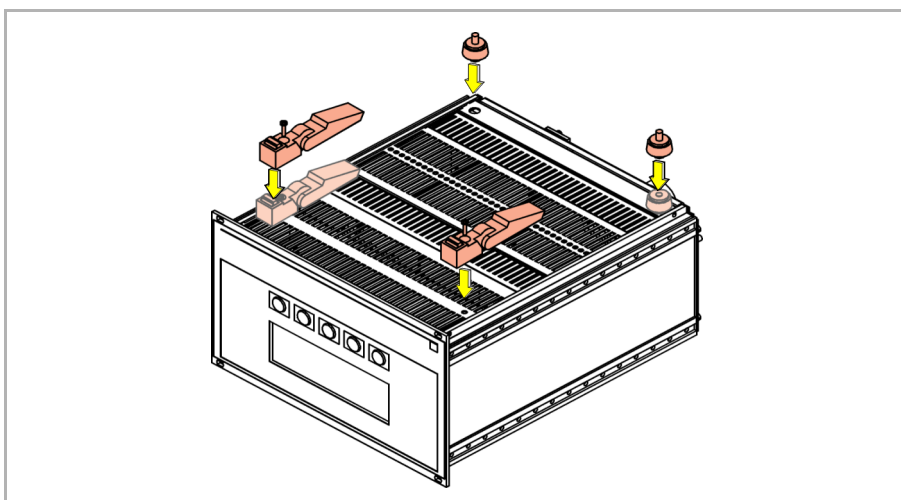

Fig. 3-1 Using the product as a desk-top device
- 2 Turn the IM 540 upside down as shown in Fig. 3-1, 20